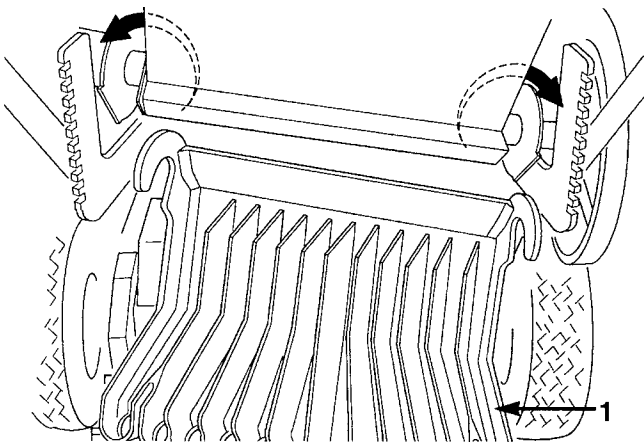

Figure 76
5. Install the chute (Fig. 76). Notice that the chute has a hook at both sides.
3. Rotate the chute up and slide it forward to disengage the hooks from the axle (Fig. 76).